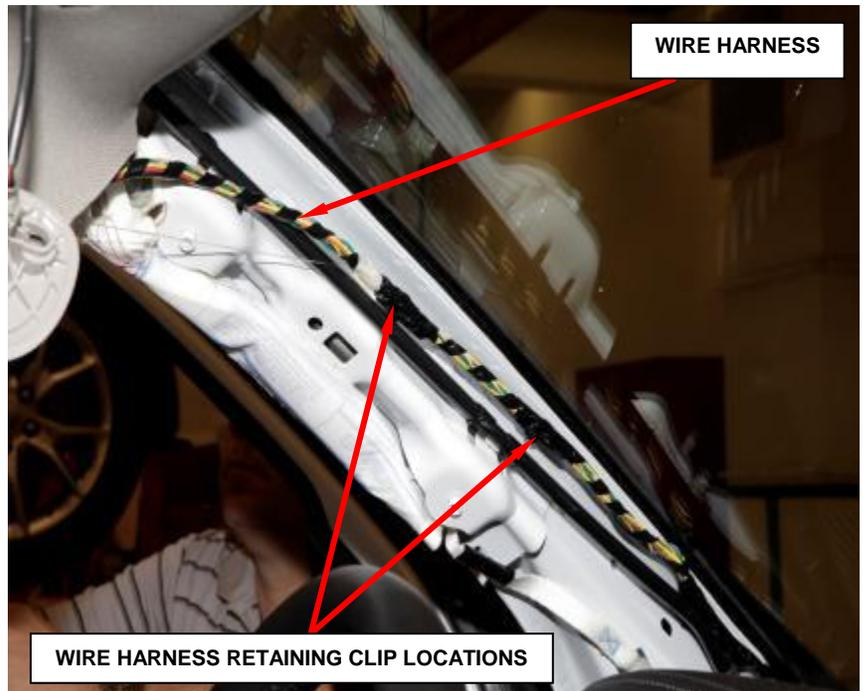

Figure 18 – A-Pillar Wire Harness
- 29. Release the wire harness retaining clips from the right and left A-pillars (Figure 18).